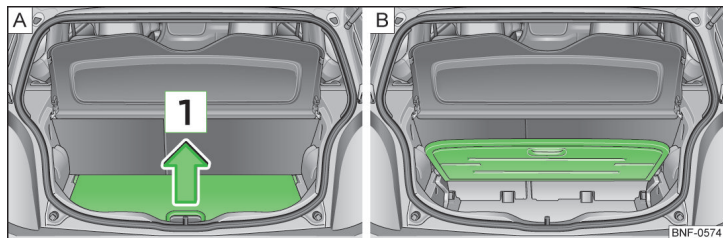

Fig. 70 Variable loading floor: open / fold up
- Grasp the load floor at handle **1** and raise to the stop in the direction of the arrow » Fig. 70 - **A**.